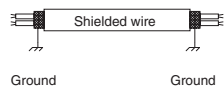

Fig. 4-4
(5) Use shielded wires for inter-unit control wiring (c) and ground the shield on both sides, otherwise misoperation from noise may occur. (Fig. 4-4) Connect wiring as shown in Section 4-3. "Wiring System Diagram."